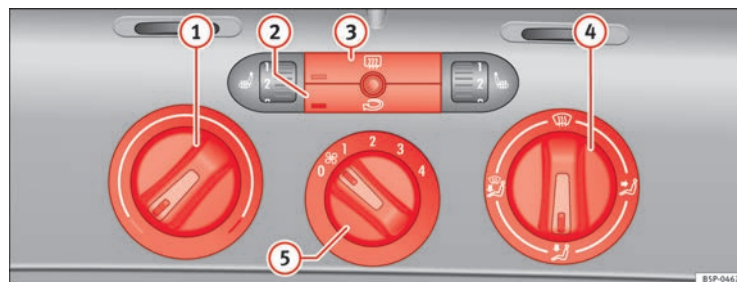

Fig. 127 Heating controls on the dash panel
- Use the knobs ⇒ Fig. 127 ① and ④ and control ⑤ to set the temperature, air distribution and blower speed.
- To switch a function on or off, press the appropriate button ② or ③. When the function is activated, the display window in the lower left of the button is lit.